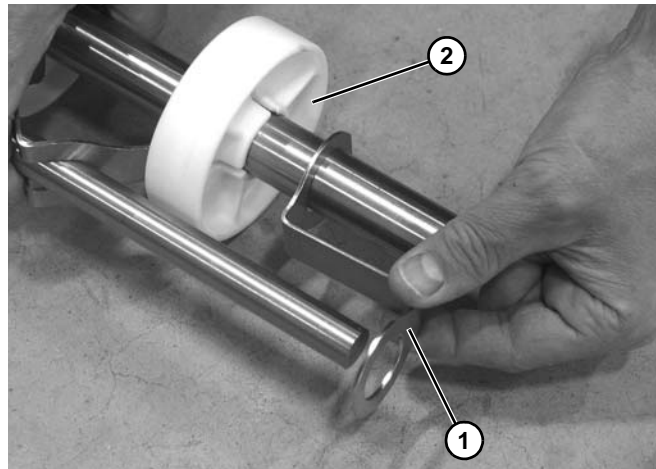

Figure 70
7. Remove outside idler puck end spacer (**Figure 70, item 1**).
8. Slide off the puck (**Figure 70, item 2**) from the puck rod.